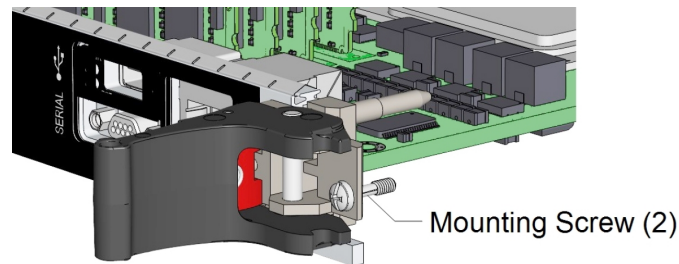

Figure 5-2: Mounting screw locations on the air-cooled LDS6525.
3. Using the #1 Phillips screwdriver, loosen the mounting screws behind the ejector handles. See Figure 5-2 above.